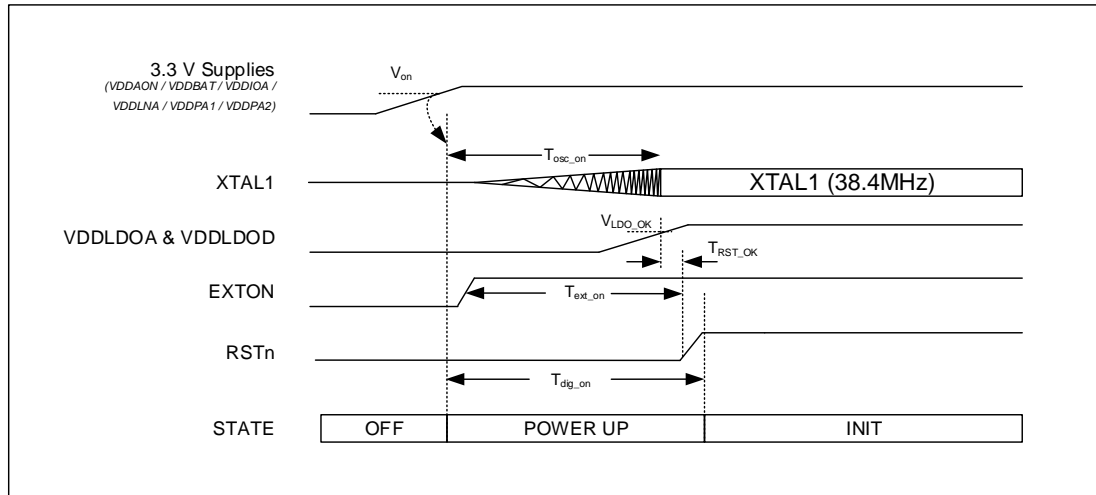

Figure 2: DW1000 power up sequence
1. Firstly the 3.3 V supplies should be switched on (as shown in Figure 2)